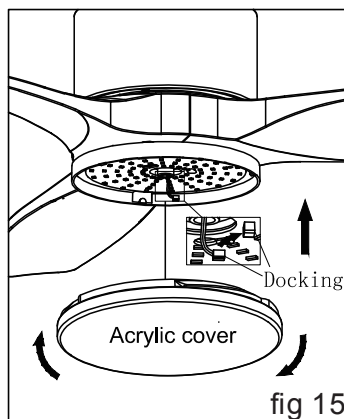

fig 15
- 3) Direct plug in the wire to the lightkit docking (connector). (fig 15)
- 4) Attach the lamp cover to the lightkit and twist clockwise until its secured tightly.(fig 15)